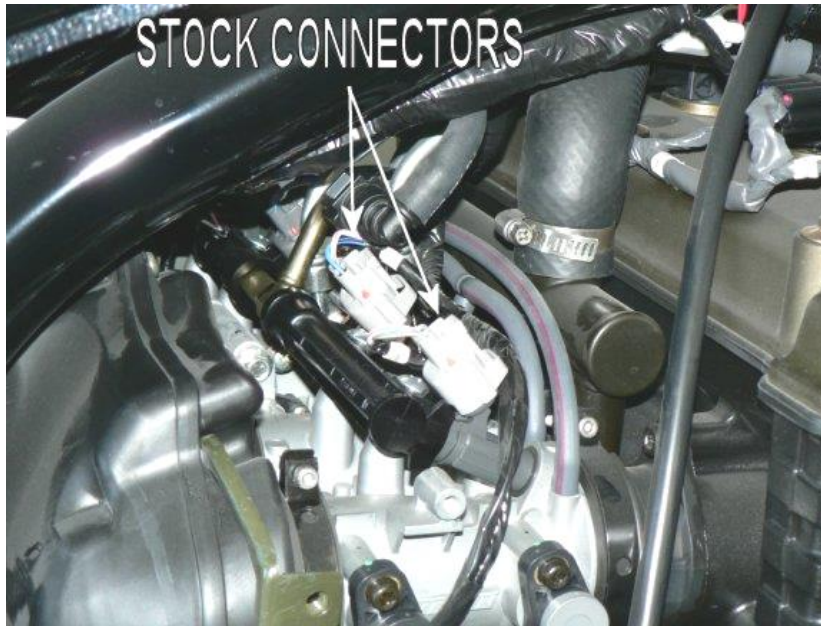

Fig.1
3. Locate and disconnect the four 2 pin grey connectors ** (Fig.1).